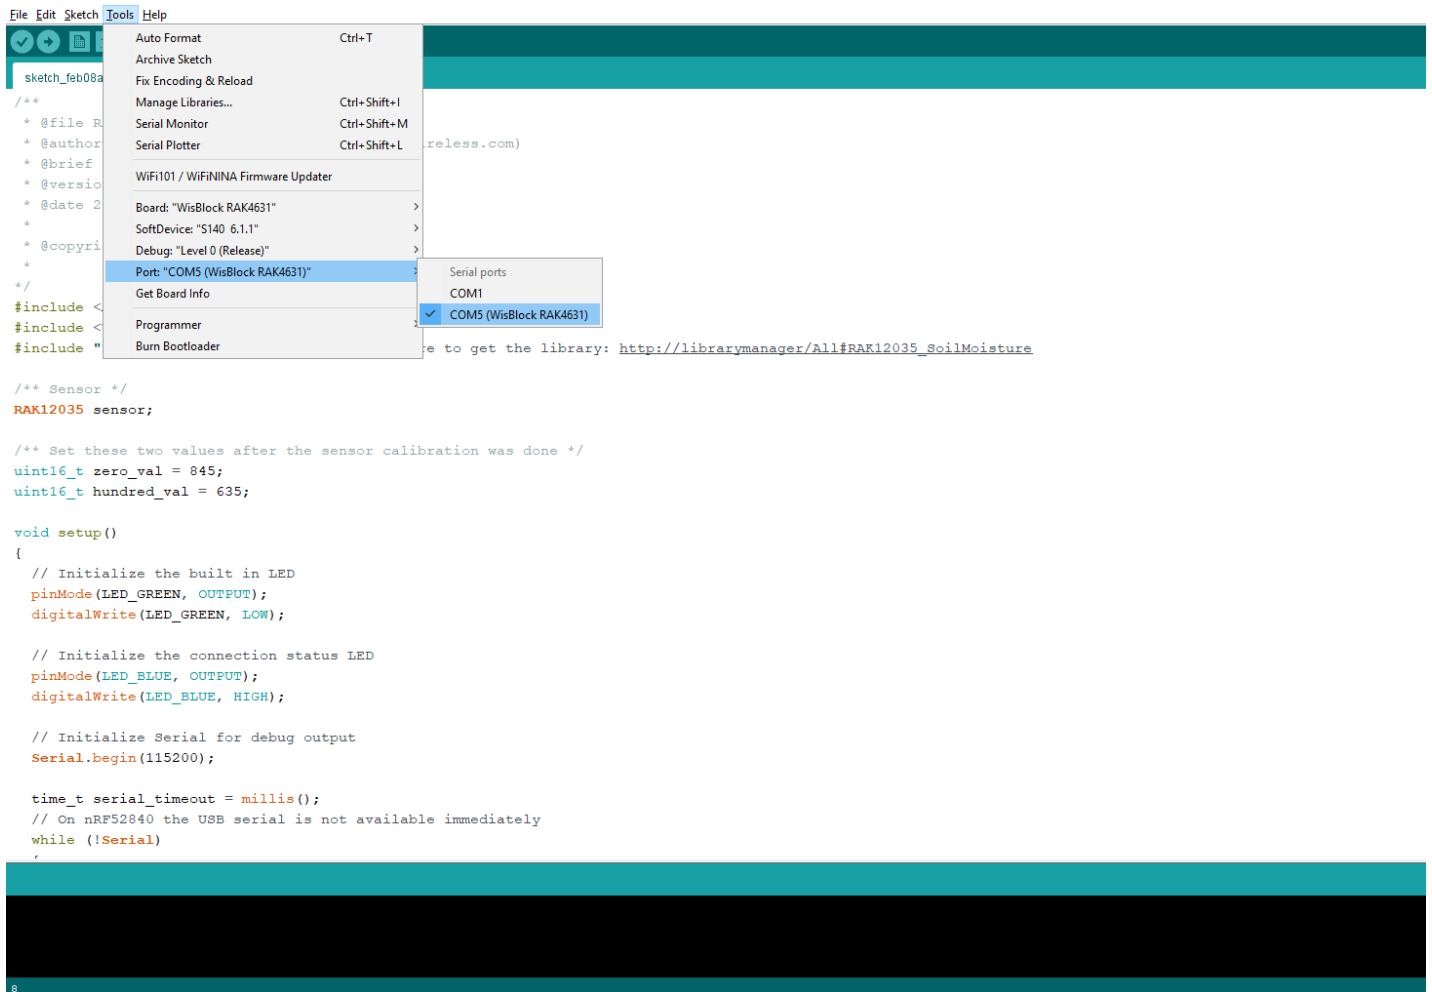
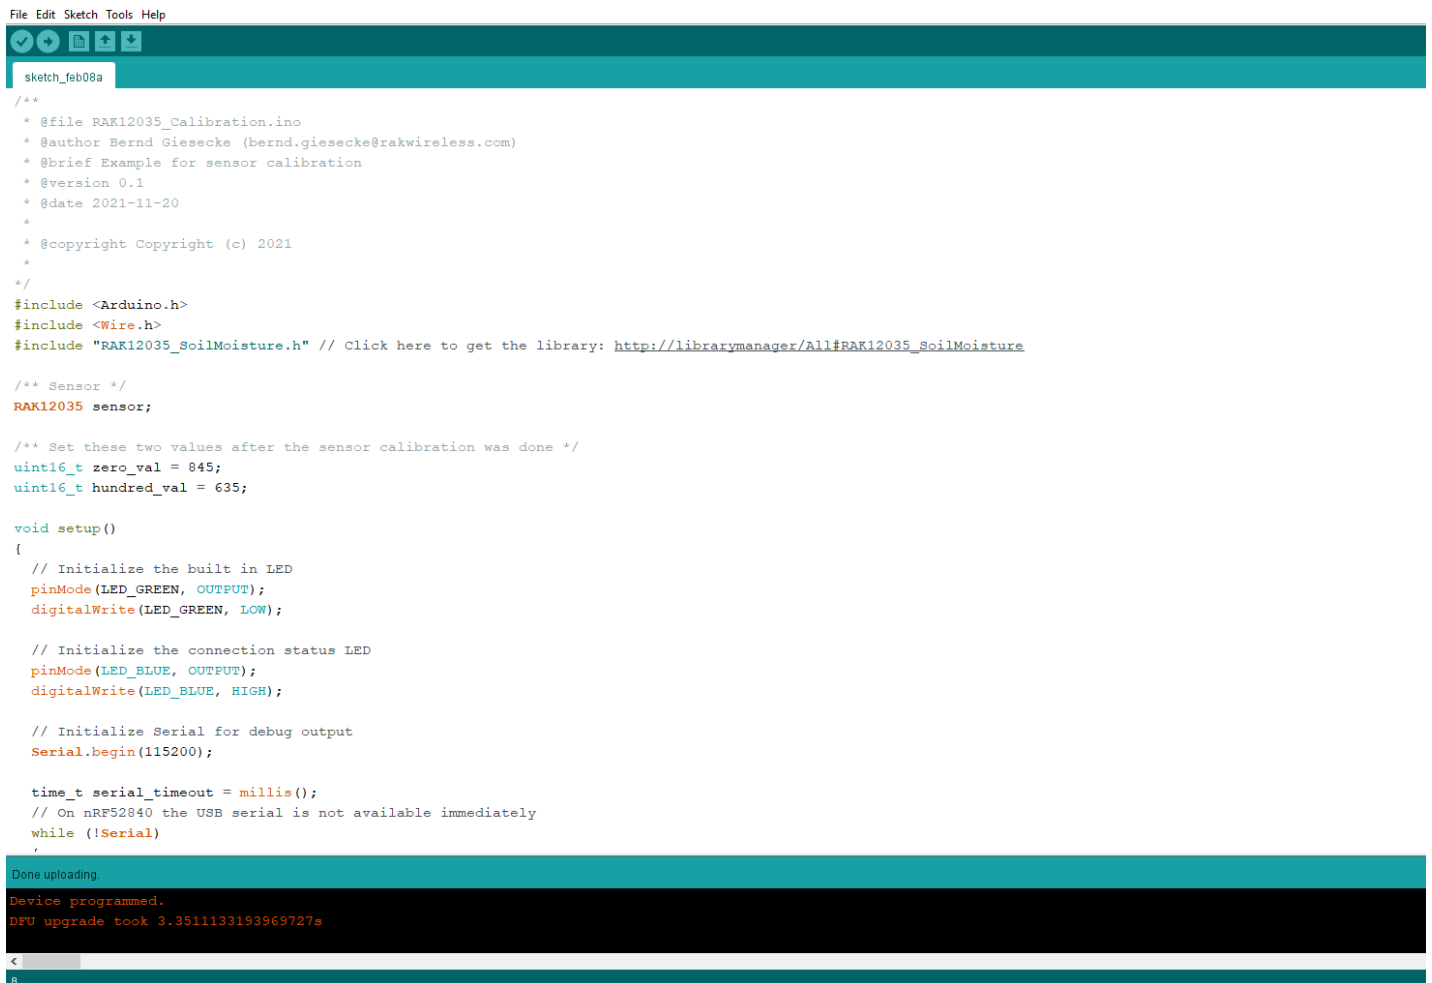

Figure 12: Selecting the correct Serial Port
Figure 13: Uploading the RAK12023 example code
4. After the successful installation of the library, you can now select the right serial port and upload the code, as shown in **Figure 12** and **Figure 13**.